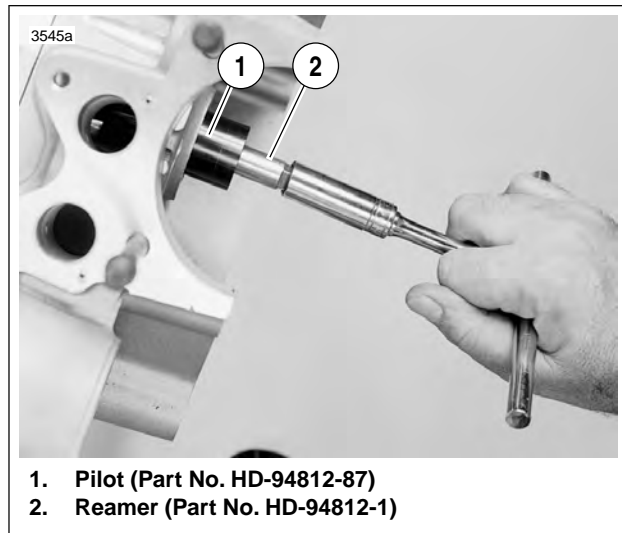

Figure 3-67. Line Reaming Pinion Shaft Bushing
2. See Figure 3-67. Install PINION SHAFT BUSHING REAMER PILOT (Part No. HD-94812-87) into right crankcase roller race. Insert PINION SHAFT BUSHING REAMER (Part No. HD-94812-1) through the pilot.